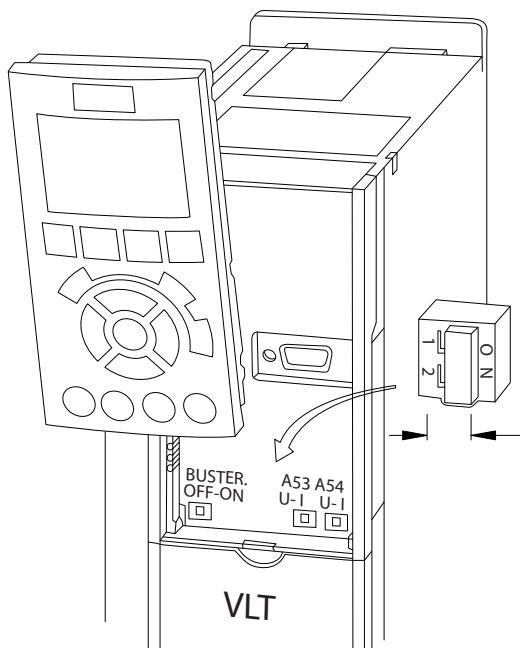

Figure 4.10 Location of Terminal 53 and 54 Switches
1. Remove the LCP (local control panel) (see Figure 4.10).